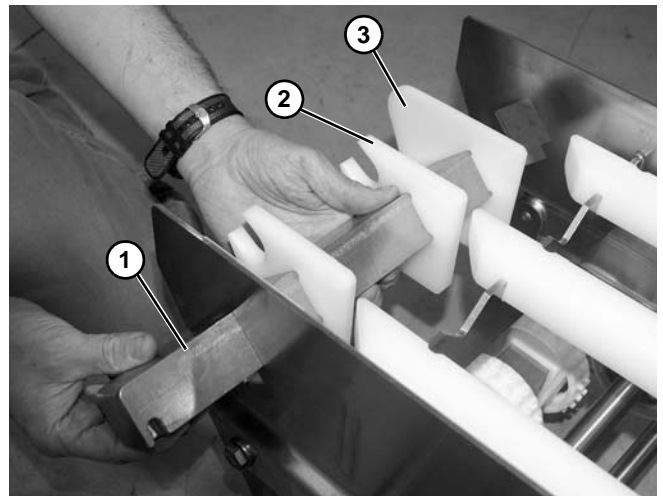

Figure 84
4. Continue pulling support bar (Figure 84, item 1) from frame, while sliding off pucks (Figure 84, item 2) and tracking pucks (Figure 84, item 3).